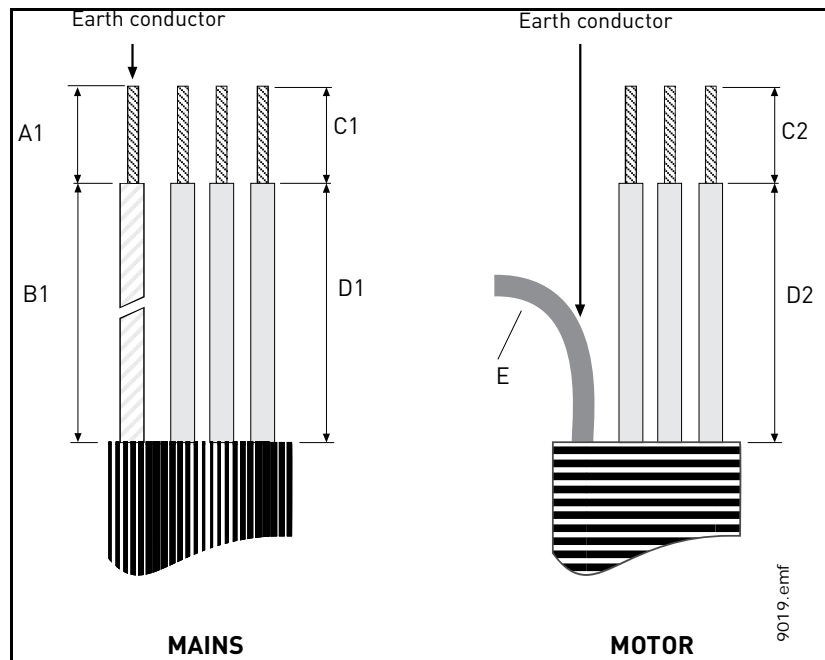
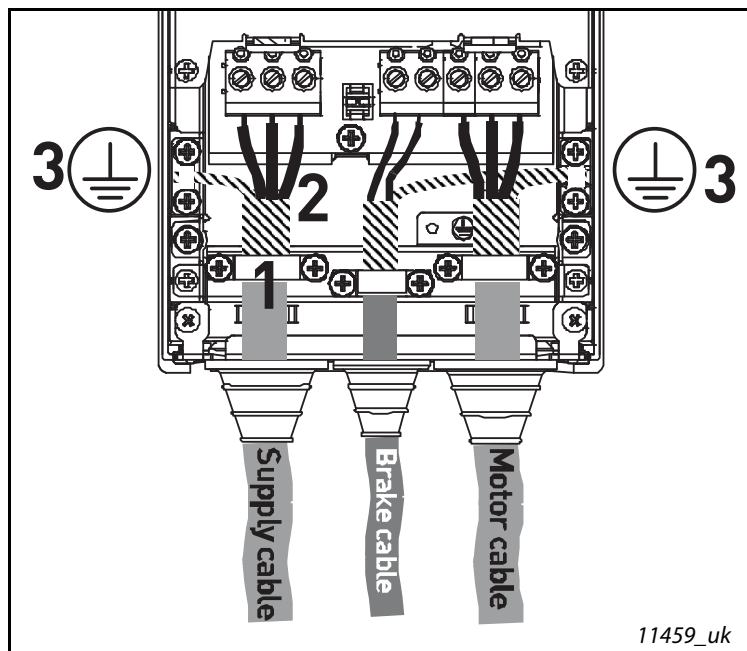

Figure 17. Stripping of cables
Figure 24.
Connect the stripped cables (see Figure 17 and Table 10) as shown in Figure 24.
- Expose the shield of all three cables in order to make a 360-degree connection with the cable clamp (1).
- Connect the (phase) conductors of the supply, brake and motor cables into their respective terminals (2).
- Form the rest of the cable shield of all three cables into “pigtails” and make a grounding connection with a clamp as shown in Figure 24 (3). Make the pigtails **just long enough** to reach and be fixed to the terminal - not longer.